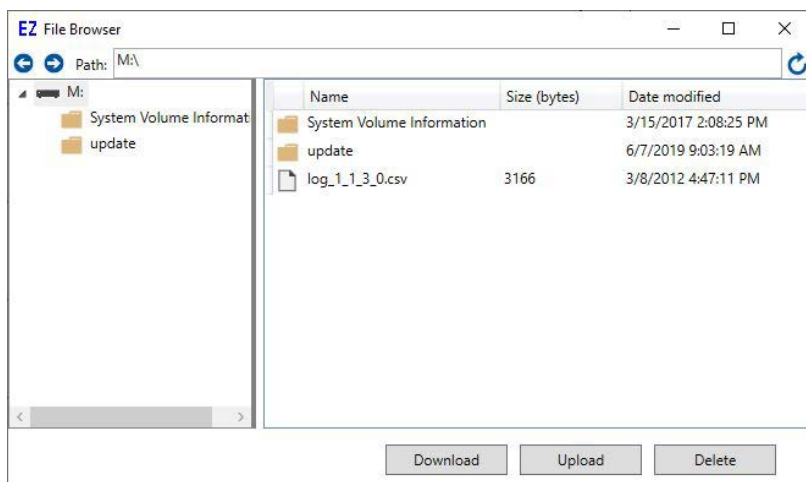

Figure 20-5
5. The **File Browser** window will open. An intermediate temporary dialog may be seen while the SD card is accessed. Refer to Figure 20-5.